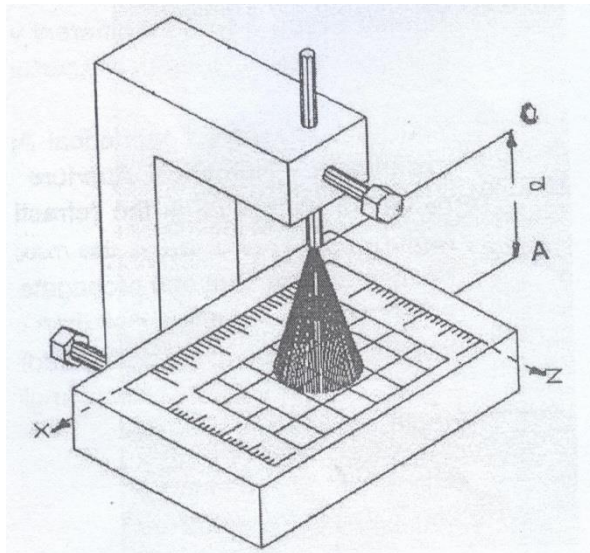

Fig: 6.6 Numerical aperture measurement setup
- Insert one end of the fiber into the Numerical Aperture Measurement Unit as shown in fig 6.6.
- Carefully measure the distance  $d$  between the tip of the fibre and the illuminated screen (OA in fig. 6.6).